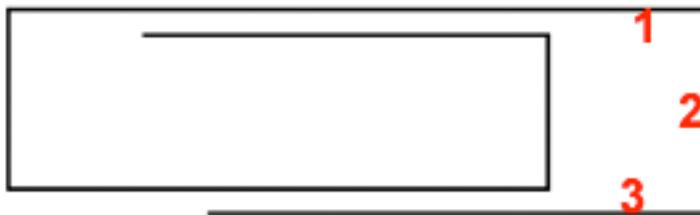

Fig 5. Click these points to create a 3 Line Fillet
- Click the 3 lines approximately as marked in fig 5 below